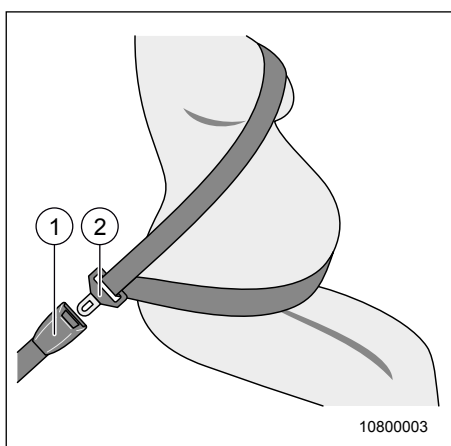

Fig. 3 Putting on the seat belt
1. Pull the seat belt on the belt tongue (Fig. 3, Pos. 2) out of the roller unit across your shoulder.
4. Insert the belt tongue (Fig. 3, Pos. 2) into the clip (Fig. 3, Pos. 1) until you hear it clicking.